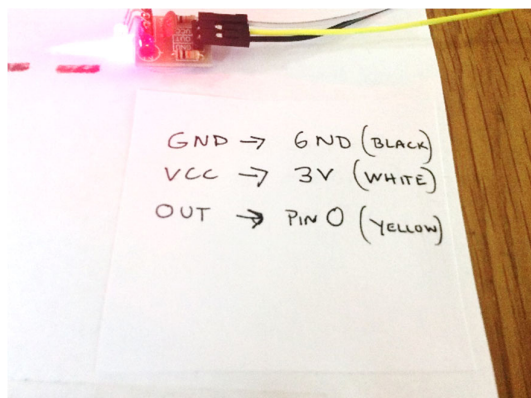

Figure 11: Laser receiver sensor
- **OUT** to the micro:bit pin you choose to use: **0** (as shown in Figure 11), 1 or 2.
When you connect the alligator clips/wires to the micro:bit, the set-up should look like Figures 11 and 12.